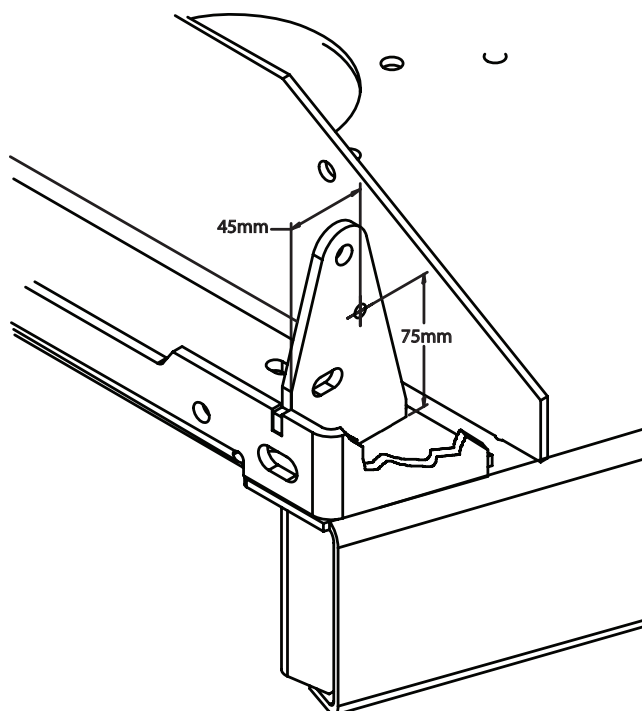

FIGURE 2
2. Locate and drill a 0.281" hole as shown in Figure 2.